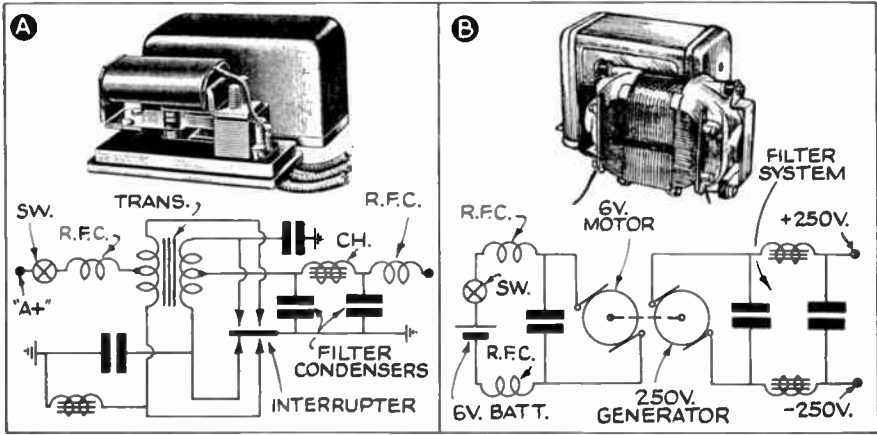

Fig. 38
(A) As you know, the B voltage needed by radio receivers is far higher than the voltage supplied by the usual automobile starting and lighting battery. You also know that such a battery supplies smooth direct current, and that it is impossible to step up such direct current by means of a transformer. See Fig. 38.